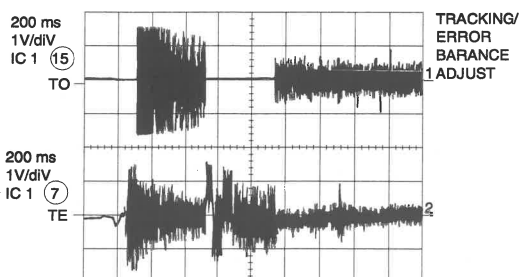

Figure 13-4
3. E/F balance (tracking error balance) (Fig. 13-4)